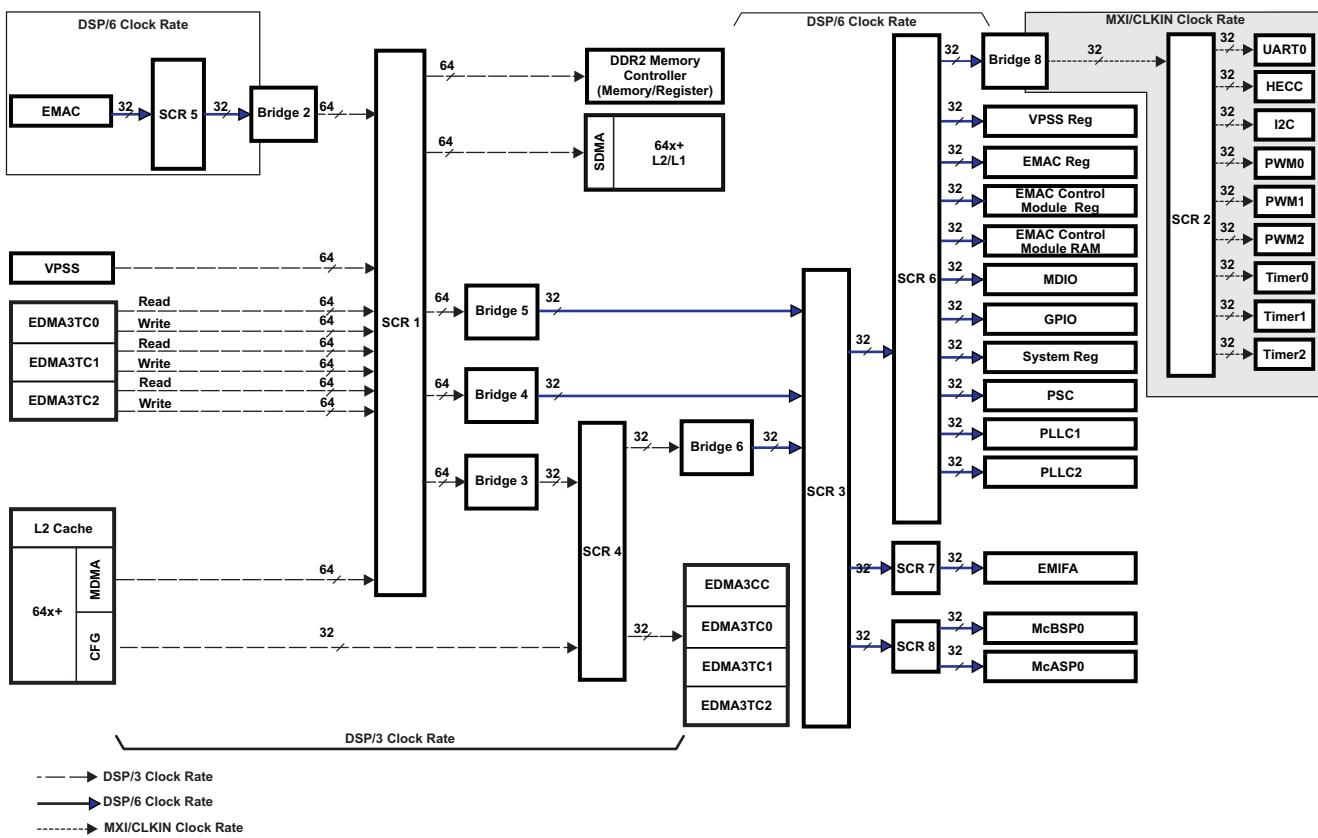

Figure 4-1. System Interconnect Block Diagram
On the DM6431 device, the C64x+ Megamodule, the EDMA3 transfer controllers, and the system peripherals are interconnected through a switch fabric architecture (see Figure 4-1). The switch fabric is composed of multiple switched central resources (SCRs) and multiple bridges. The SCRs establish low-latency connectivity between master peripherals and slave peripherals. Additionally, the SCRs provide priority-based arbitration and facilitate concurrent data movement between master and slave peripherals. Through an SCR, the DSP subsystem can send data to the DDR2 Memory Controller without affecting a data transfer between the EMAC and L2 memory. Bridges are mainly used to perform bus-width conversion as well as bus operating frequency conversion. For example, in Figure 4-1, Bridge 6 performs a frequency conversion between a bus operating at DSP/3 clock rate and a bus operating at DSP/6 clock rate. Furthermore, Bridge 5 performs a bus-width conversion between a 64-bit bus and a 32-bit bus.
Figure 4-1 displays the DM6431 system interconnect block diagram. The following is a list that helps in the interpretation of this diagram:
- A peripheral may have multiple instances shown in Figure 4-1 for the following reason: